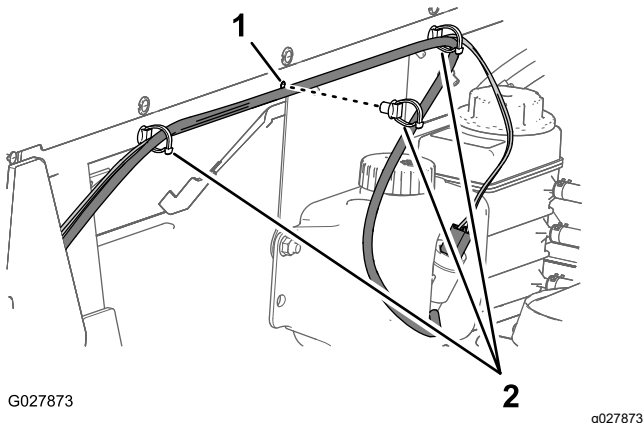

Figure 32
7. At the back of the cab, install 3 push fasteners into the 3 hole across the back panel of the cab (Figure 32).